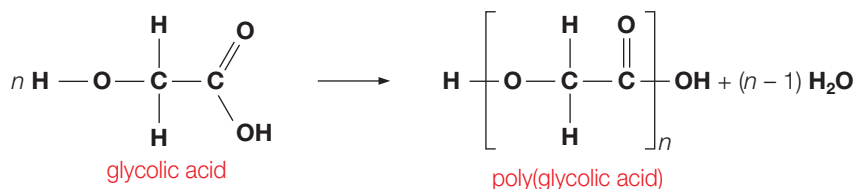

Figure 6.26 ▲
Polyamides such as nylon and polyesters containing aromatic groups are fairly resistant to hydrolysis unless the reaction is catalysed by acid or base. But polyesters made from purely aliphatic monomers hydrolyse slowly at pH 7 without acid or base catalysts. This has led to the use of poly(glycolic acid) (Figure 6.26) for stitching internal wounds. Once the stitches (sutures) have been inserted and the surgical incision closed, the stitches dissolve slowly in the patient's tissue fluid.
- 8 Which do you think will degrade the faster when used for stitching internal wounds – poly(lactic acid) or poly(glycolic acid) (Figure 6.26)? Explain your answer.